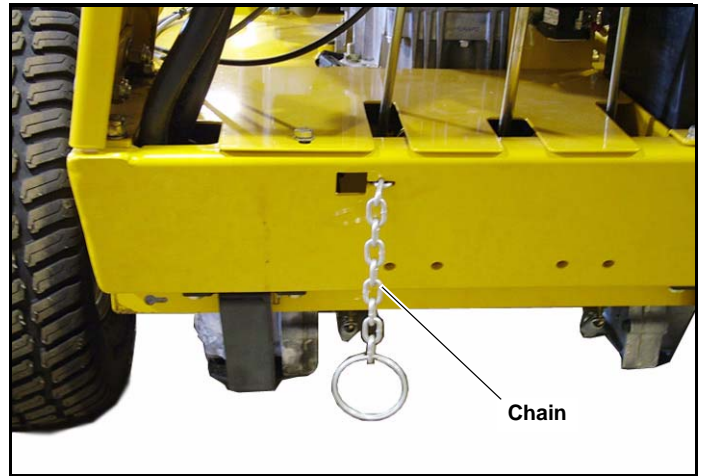

Fig. 3-6
**To disengage** the pump clutch, **pull the chain** (Fig. 3-6) until the tension is released from the pump drive belt and latch in the slot. Fig. 3-6